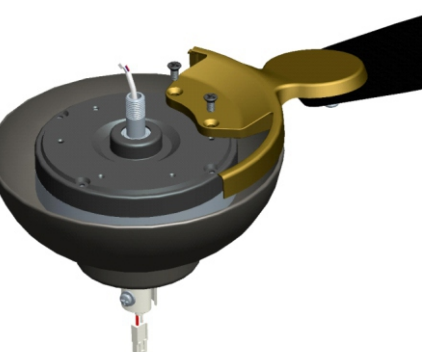

Fig 2.1
- Fix each prepared blade arm to the motor assembly with blade arm screws as shown in Fig 2.1.